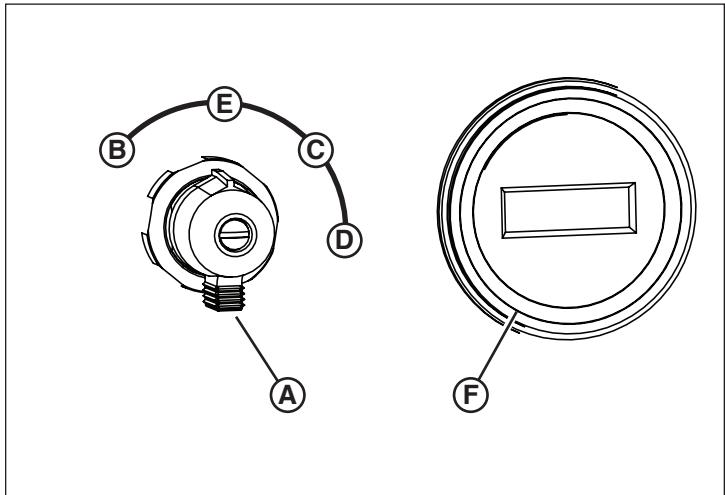

Figure 15
1. Turn the ignition switch (**A**, Figure 15) on the control panel counterclockwise to PREHEAT (**B**). Hold for approximately 20 seconds.
2. Turn the switch clockwise past RUN (**C**, Figure 15) to START (**D**).
*NOTE: The hourmeter (**F**, Figure 15) indicates the total hours of engine operation.*
1. Turn the ignition switch counterclockwise to the OFF position (**A**, Figure 15).